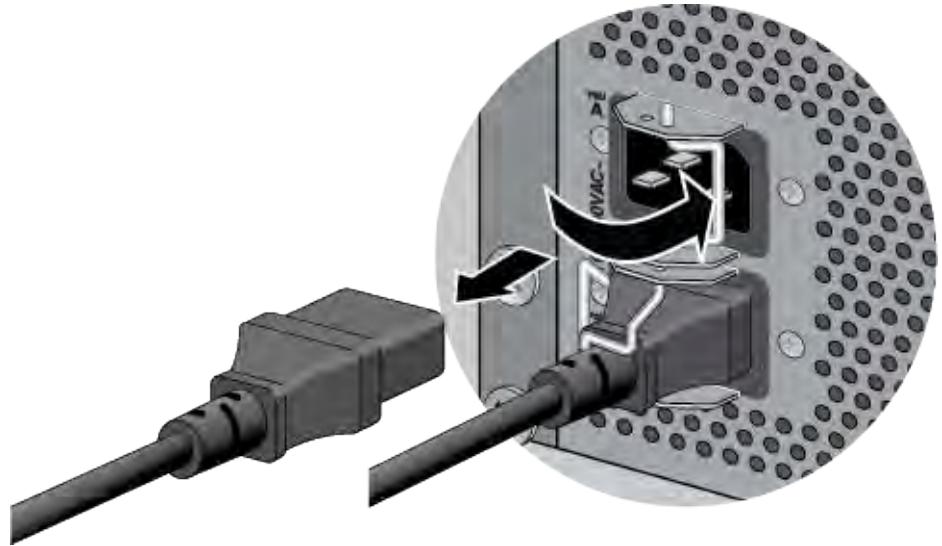

Figure 90. Disconnecting the AC Power Cord from the Chassis
2. Move the retaining clip from the corresponding power cord on the rear panel of the chassis, and disconnect the cord. Refer to Figure 90.